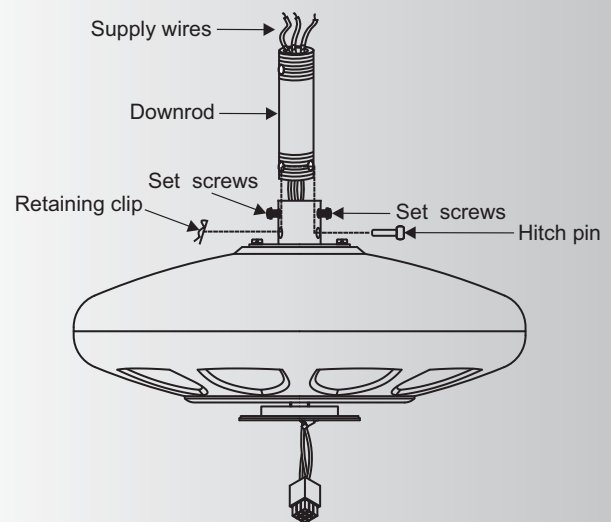

Fig. 8
Step 6. Loosen the two set screws and remove the hitch pin and retaining clip from the coupling on top of the motor assembly. (Fig. 8)
Next, replace the hitch pin and retaining clip. Tighten both set screws. (Fig. 8)